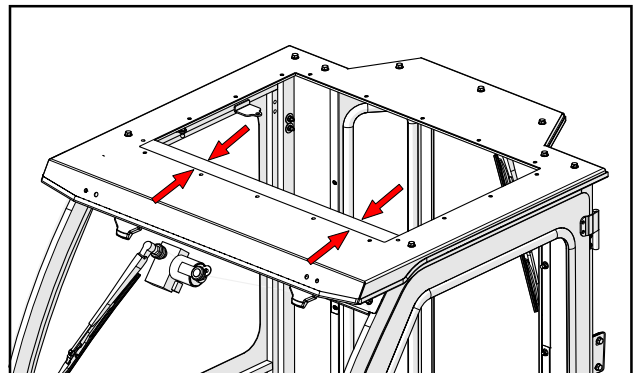

Fig. 2.2a (Cut Windshield Support)
- 2.2** Loosely install roof fasteners (as in section 2.1) to locate the roof, then mark the windshield support by tracing the perimeter of the rectangular cut out in the roof. Figure 2.2a.